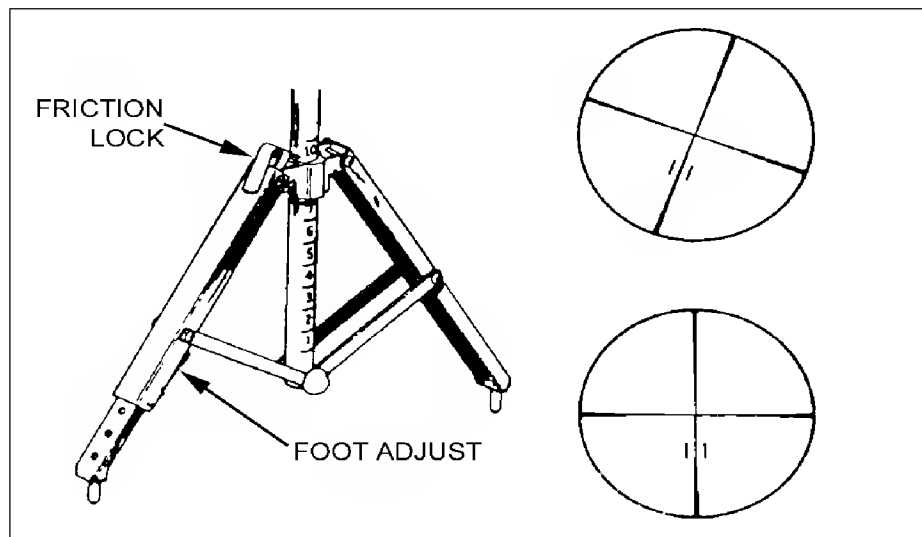

Figure 2-6. Leveling the sight picture.
f. **Adjusting for Height and a Level Sight Picture.** Look through the sight to see if the sight picture is level. An unlevel sight picture (more than 6 degrees off level) will cause the sight to send bad commands to the missile. The missile will fly erratically and the missile will hit the ground. To obtain a level sight picture, adjust the bipod friction lock and the foot adjustment lever (Figure 2-6, page 2-5).